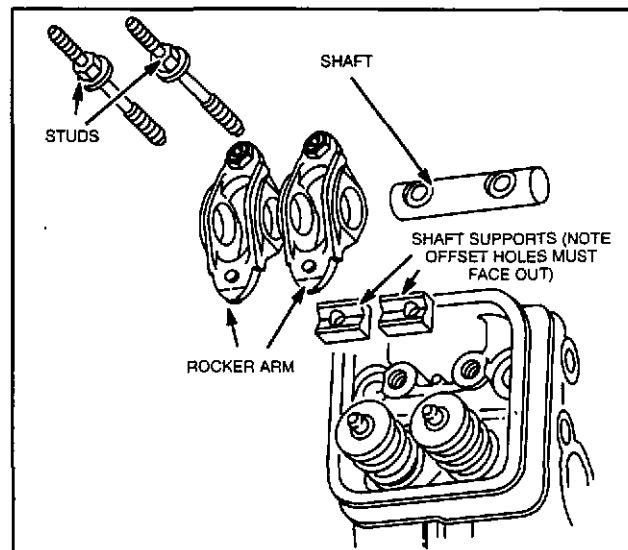
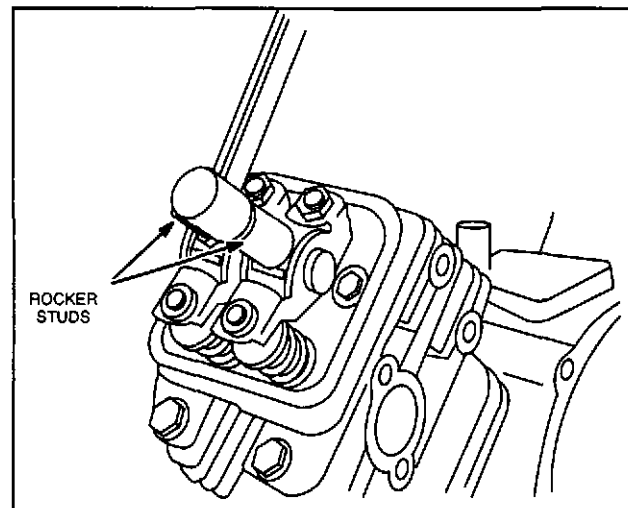

Fig. 19 - Assembling Rocker Arms
Fig. 20 - Installing Rocker Studs
**NOTE:** Rocker shaft support holes are offset. Install with holes facing ends of rocker shaft, Fig. 19. Assemble rocker arms, shaft, supports and studs and install on cylinder head, Fig. 19. Torque studs to 16 Nm (140 in. lbs.), Fig. 20.